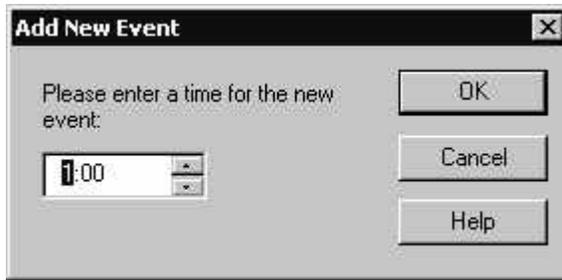

Figure 5.13 Add New Event Dialog
8. Add one or more events to the schedule. To add an event, click **Add** under the **Events** list or double-click the first column of the first empty row in the **Events** list. The **Add New Event** dialog opens, as shown in Figure 5.13.